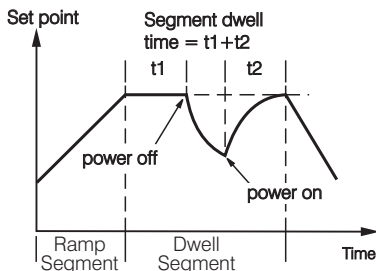
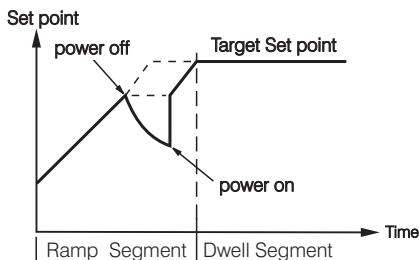

Figure 4.3 Recovery from profile at dwell segment
Figure 4.4 Recovery from profile at ramp segment
If power is lost and then restored, while a profile is running, the behavior of the profile is determined by the setting of the parameter "PFR" power fail recovery in profile configuration. This can have one of 4 settings - *cont*, *PU*, *SP I* and *OFF*. If *cont* is selected, then when power is restored the profile continues from where it was interrupted when power was lost. The parameters such as set point value (SV), time remaining (TIME) and cycle remaining (CYCL) will be restored to their power-down values. For application that need to bring the process value to the set point value as soon as possible, this is the best choice. The two diagrams below illustrate the respective responses, Fig. 4.3 if power fails during a dwell segment and Fig. 4.4 if it fails during a ramp segment.